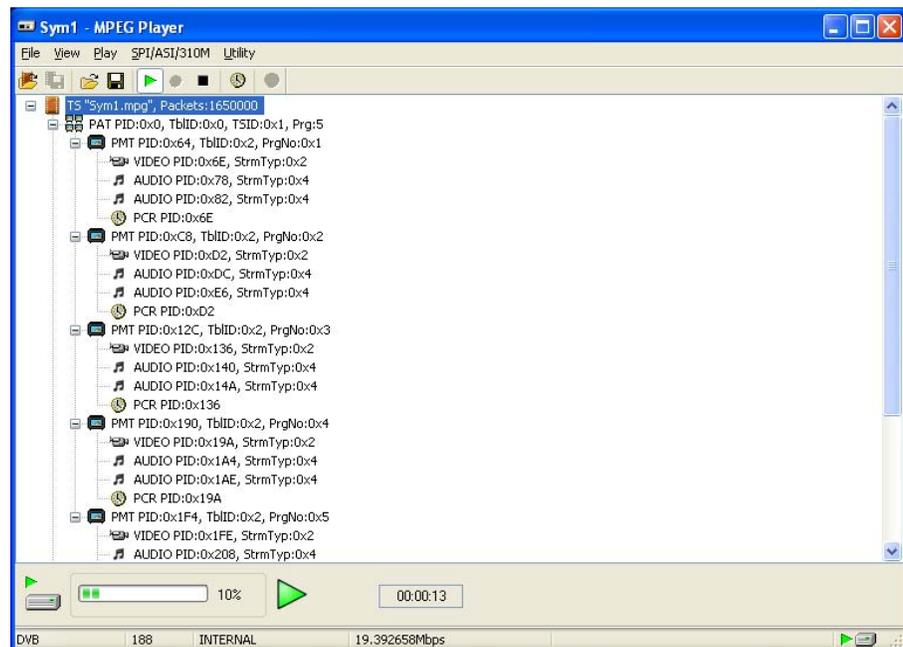

Figure 2–10: MPEG Player playing a SMPTE310M transport stream
31. Verify that the TS rate displayed at the bottom of the MPEG Player window displays the SMPTE310M rate of 19.392658 Mbps (see Figure 2–10).